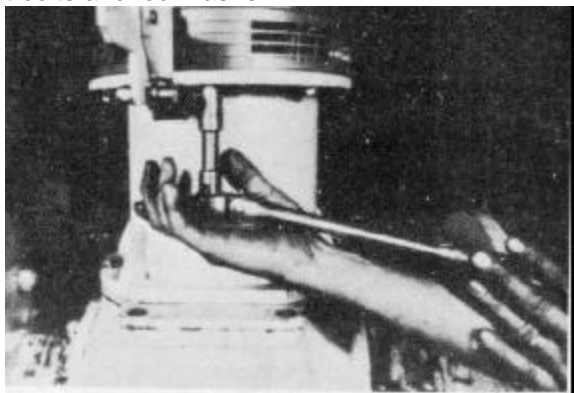

Figure 5-37
1. Remove the four 3/8 24 x 1-1/4" long hex head bolts and four 3/8 24 x 3-1/2" long hex head bolts from the drive motor support using a 9/16 inch socket or box wrench. Fig. 5-37 shows location and removal of the eight bolts and lockwasher..